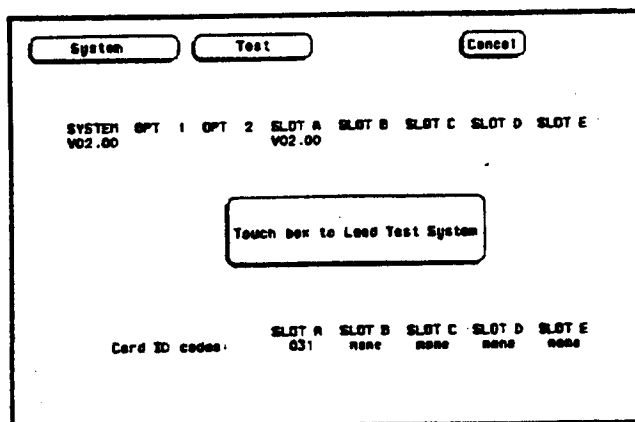

Figure 6-3. Load Test System
- c. Insert the PV Test System disk and touch box to load Test System. See figure 6-3.